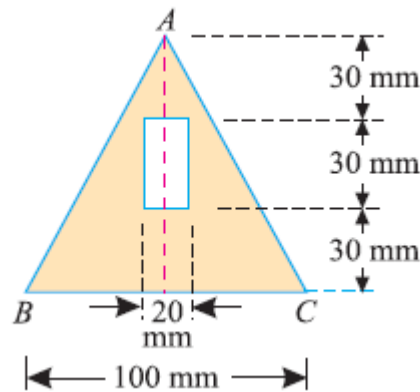

Fig.23
7. A rectangular hole is made in a triangular section as shown in Fig.23. Determine the moment of inertia of the section about X-X axis passing through its centre of gravity and the base BC. [L2] [6M]